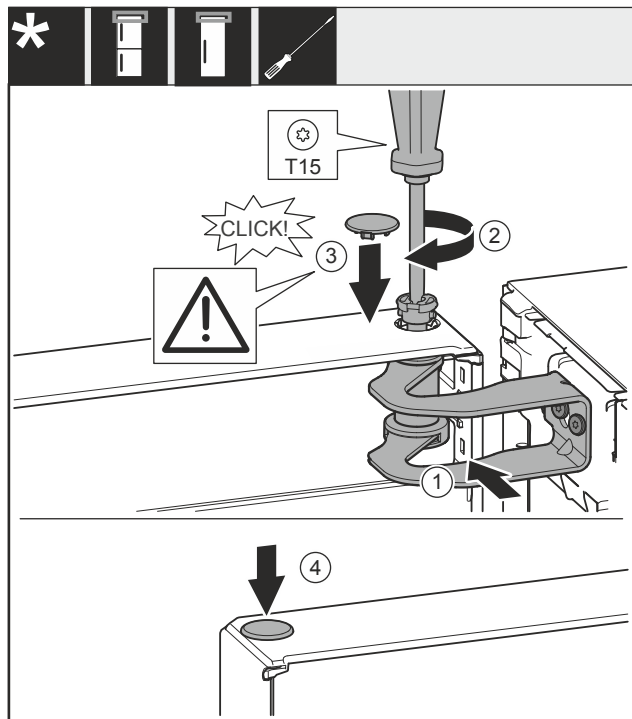

Fig. 23
- ▶ Align the door with the opening in the swap bearing block Fig. 23 (1).
- ▶ Insert the bolt Fig. 23 (2) and use screwdriver to tighten it.
- ▶ Insert the cover Fig. 23 (3).
- ▶ Check that the cover Fig. 23 (3) is resting on the door.
- ▶ Insert the cover Fig. 23 (4).